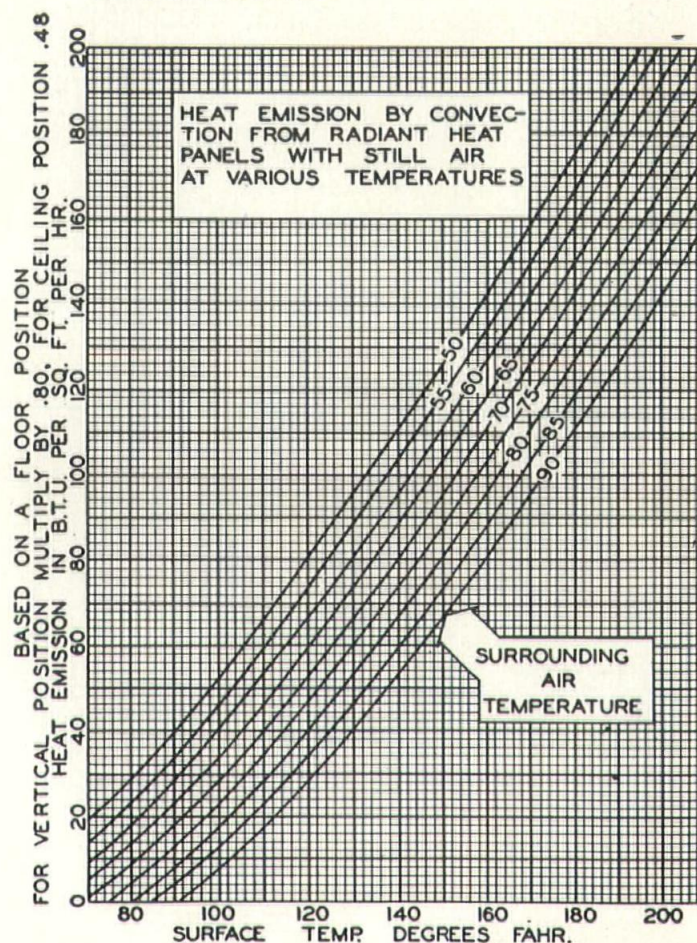

Fig. 5. Heat emission by convection for various surface temperatures
Second, by reference to Fig. 5, radiation from 99° F to 64° F =
17. Next determine the transfer by convection by reference to Fig. 5. From a surface of 99° F to an average air temperature of 68° F this is found to be 29.5 x .48 for a ceiling, or 14.16 BTU per hour.